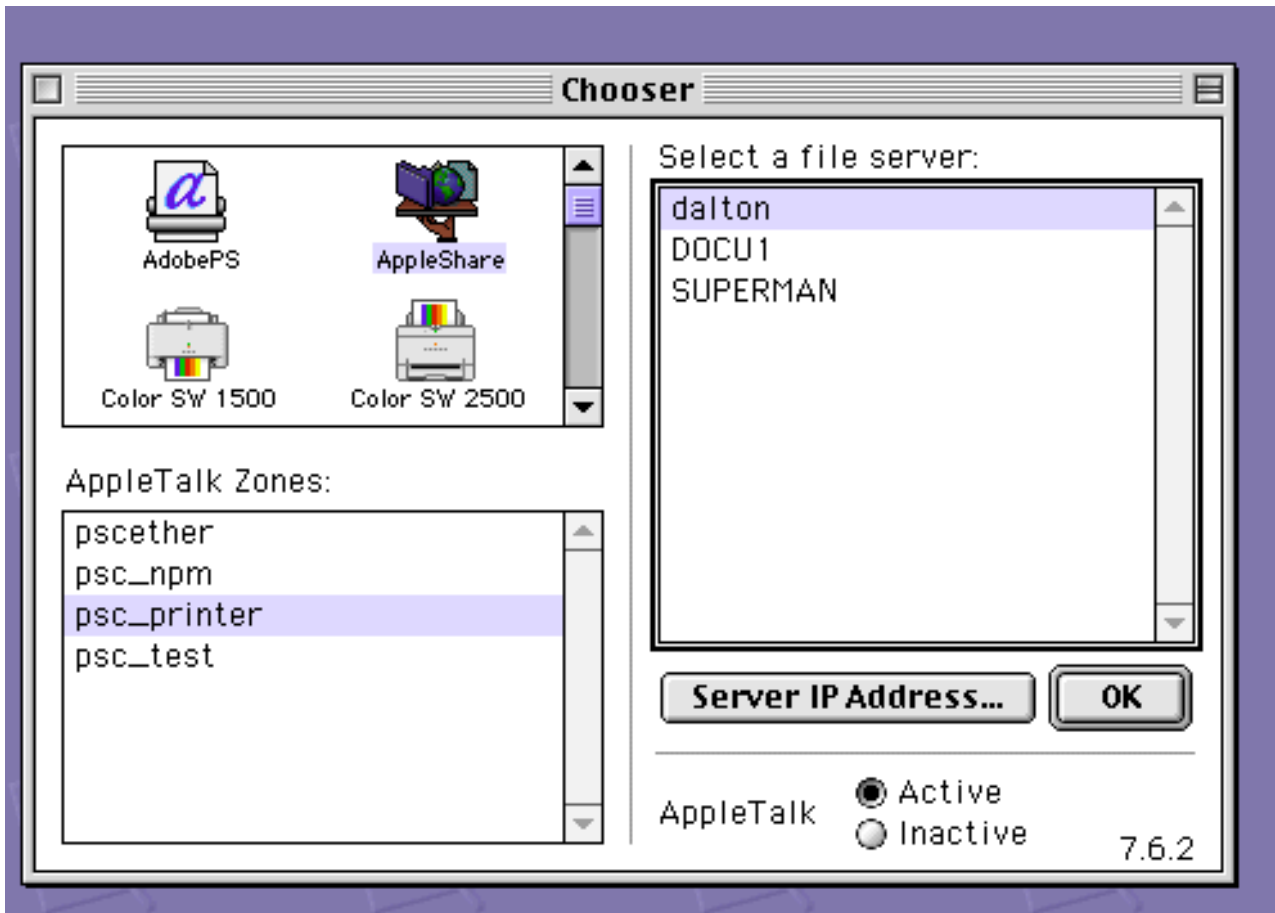

Figure 87. Chooser selections
- To connect to the shared directory folder on the InfoPrint AIX server, use Chooser (see Figure 87 on page 374).